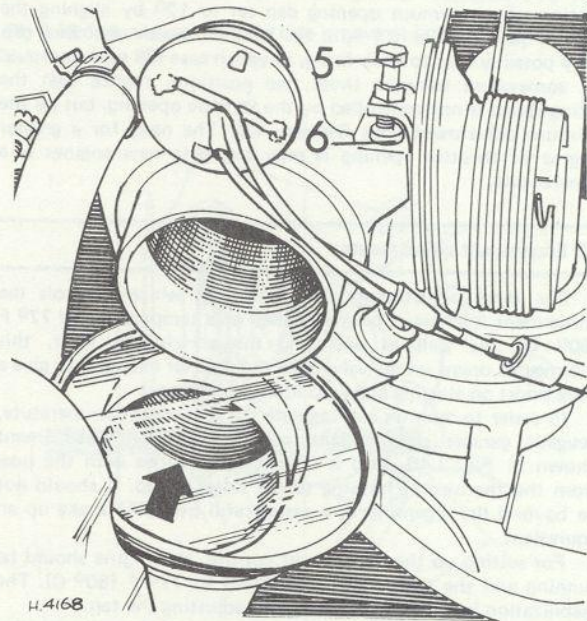
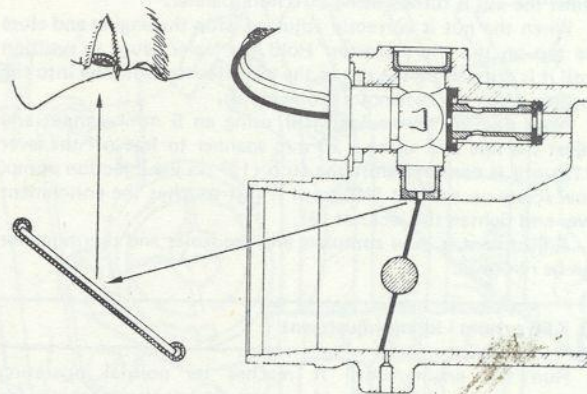
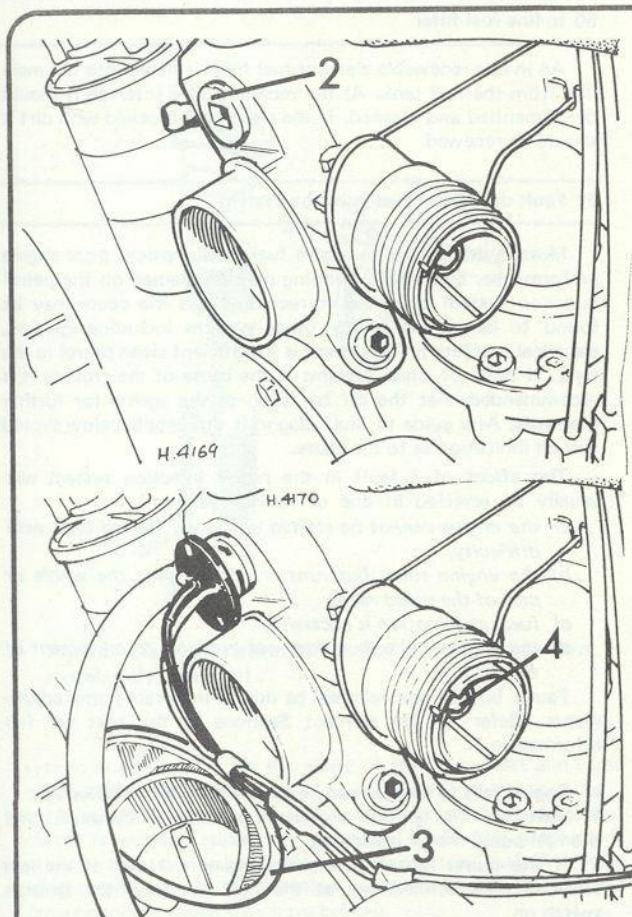

Fig 3.49 Initial throttle setting position (KF5/XN2) (Sec 45)
Fig 3.50 Cross-section through air chamber showing light and mirror (Sec 45)
Fig 3.51 Adjustment of initial throttle setting position (KF5/XN2) (Sec 45)
(Fig. 3.49) which bears against a pad (6) on the air chamber. The setting must be such that as soon as the throttle flap moves it start to uncover a jet housed in the air chamber; Fig. 3.50 shows this and gives an idea of how the setting is checked.
2 Check the setting by first removing the plug (2) (Fig. 3.51) being careful not to lose a thin washer with a small hole in it. It is in fact a correction jet and may become dislodged when the plug is taken out. The various bits and pieces that are located behind this plug are shown in Fig. 3.50.
3 Insert a small light in place of the plug. Fig. 3.51 shows a suitable light holder in-situ and Fig. 3.50 gives a diagrammatic view of the set up.
8 Make sure that the correct jet (paragraph 2) is correctly in place. Refit the plug (2) (Fig. 3.51) oiling the thread and using a new 'O' ring. Finally tighten the plug to a torque wrench setting of 14.5 lb f ft (2.0 kg f m).